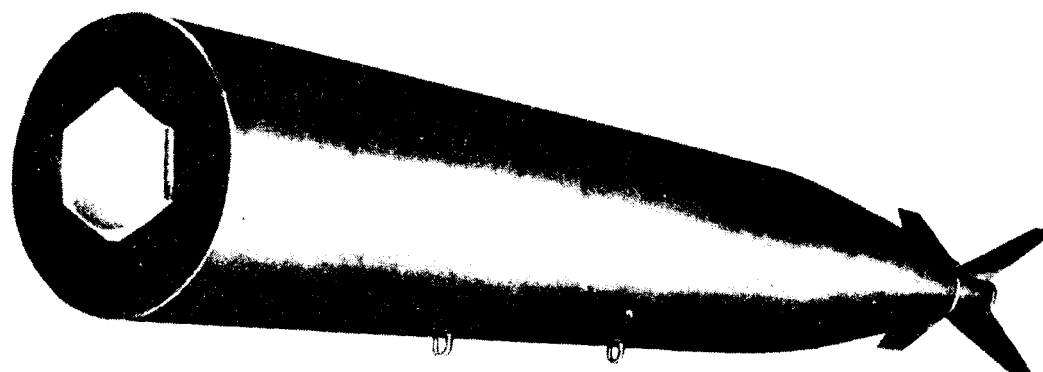

Figure 2-8. Bomb, Demolition, 800 pound, BLU 31/B
- 1-19. Type: Demolition Bomb, BLU 31/B (reference figure 2-8)